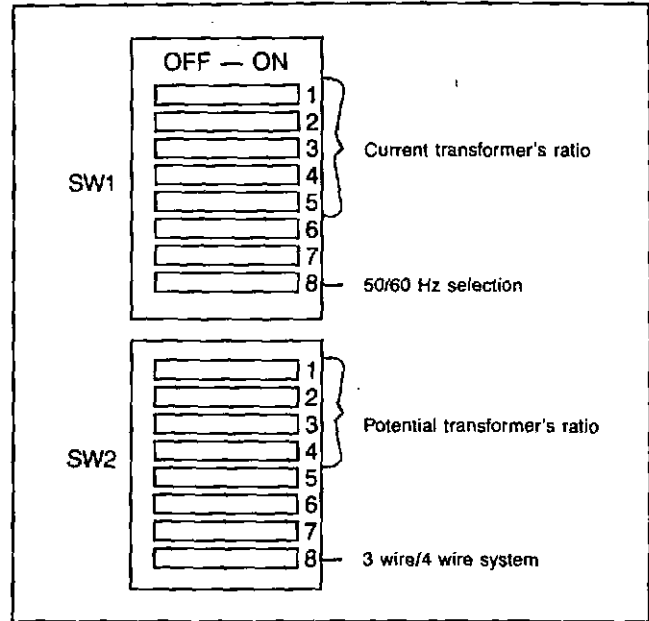

Figure 4.5 DIP Switches
4.3 DIP Switch Settings — The DIP switches located and accessed from the rear-right portion of the chassis must be properly set according to application requirements. Obtain the Installation Record Sheet produced specifically for the application. A blank Record Sheet is shown in the Table 4.A, page 19. Both DIP switches contain eight 2-position switches which are set in combination. (See Figure 4.5.) The switches are turned ON or OFF by sliding the switch. As you face the DIP switches, slide:
Observe the ON and OFF designations on the DIP switches shown in Figure 4.5. Always look for the OFF and ON designations on the hardware or printed circuit board to be sure you are setting the switches correctly.